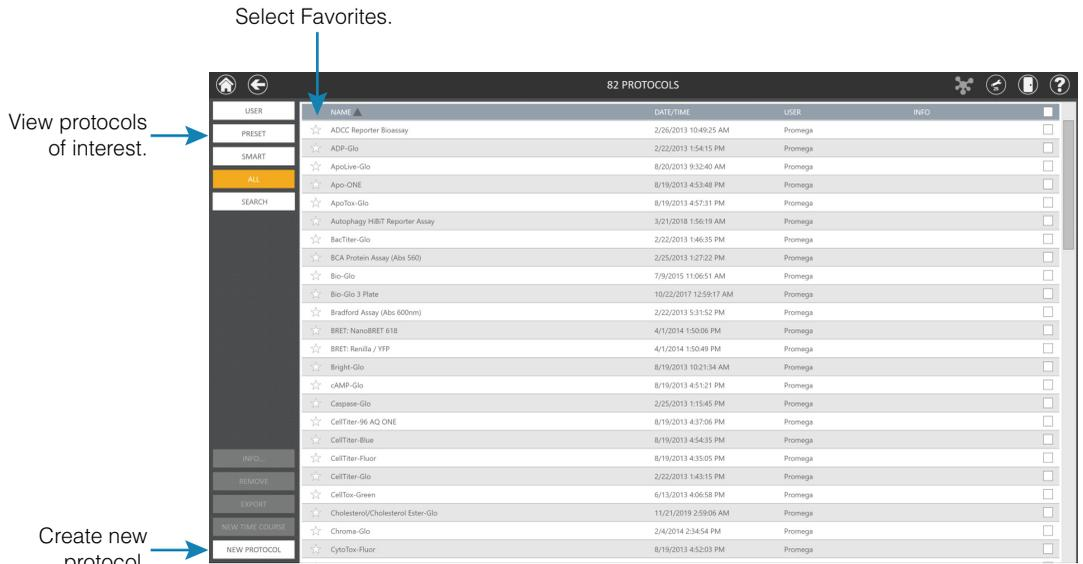

Figure 13. GloMax® Discover 'Protocols' screen.
1. To create a new protocol, from the 'Protocols' screen, tap the **New Protocol** button at the bottom of the screen (Figure 13). To edit an existing protocol, select a preset or user-defined protocol from the 'Protocols' screen (Home → Protocols).